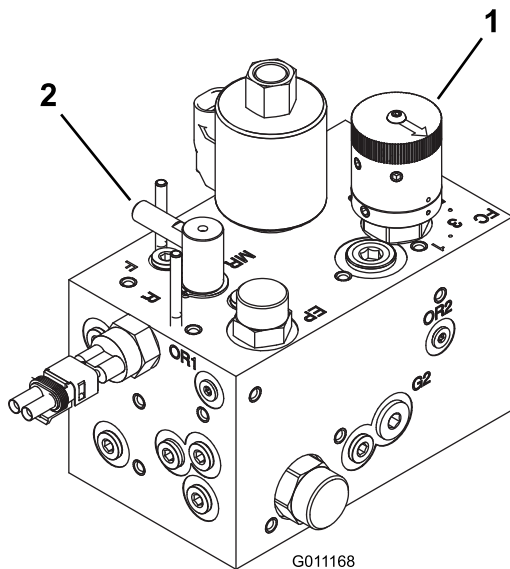

Figure 77
3. Rotate the backlap control to the backlap position (R). Rotate the reel speed control to position 1 (Figure 77).